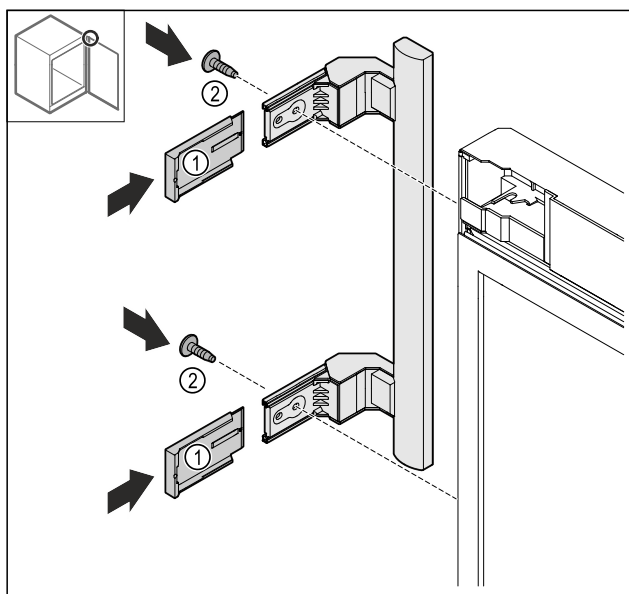

Fig. 20
- ▶ Slide on the Fig. 20 (1) covers.